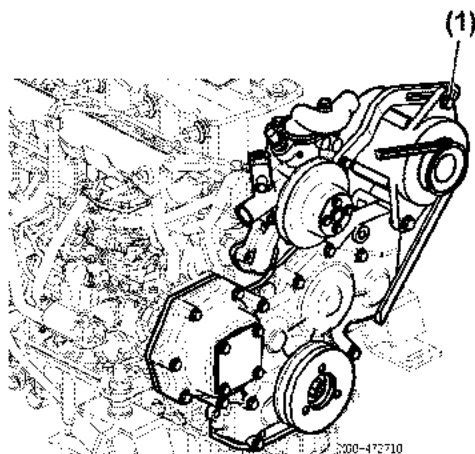

Figure 11-7
4. Loosen the alternator adjuster bolt (Figure 11-7, (1)) and relieve V-belt tension. Remove the V-belt. **NOTICE:** If belt is to be reused, note direction of travel and install in same direction of travel.